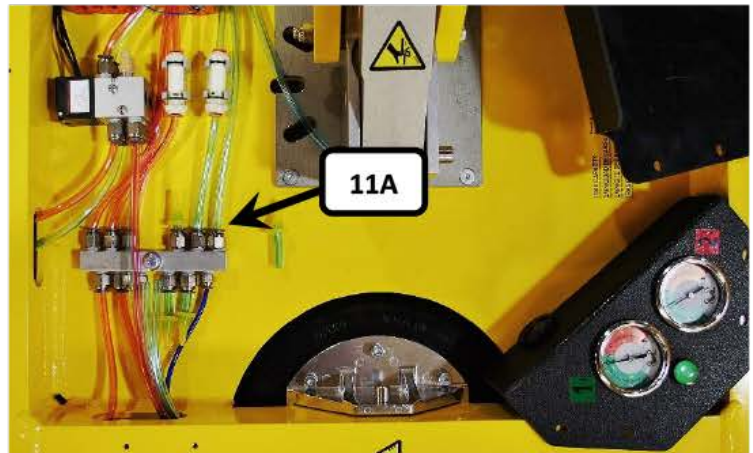

FIGURE 11
13) Reconnect one of the 1/4" [6.35 mm] O.D. quick connect hoses to the pad system manifold, leaving the other ports plugged, as shown in **FIGURE 11**. In **FIGURE 11** the hose to the quick connect (**11A**) has been reattached to the top-right port of the manifold; the plugs have not been removed from the other ports.